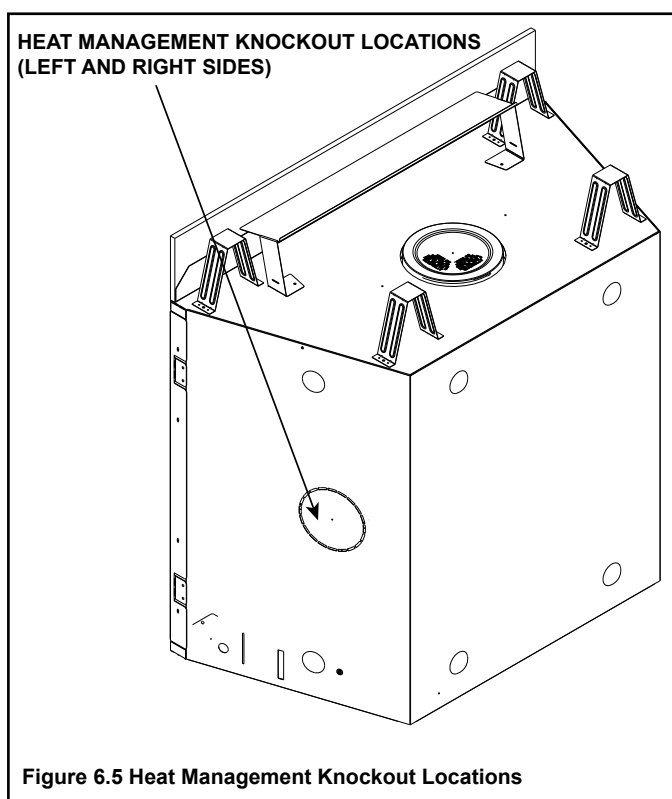

Figure 6.5 Heat Management Knockout Locations
- Locate the heat management ports on the left and right sides of the appliance. Either one or two Heat-Zone® -Gas Kits may be installed. Remove the knock-out from the fireplace and discard it. See Figure 6.5.